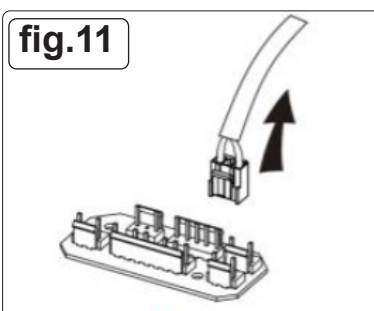

fig.11
- Find out the terminal of the light connecting wire and dismantle it. (See fig.11).